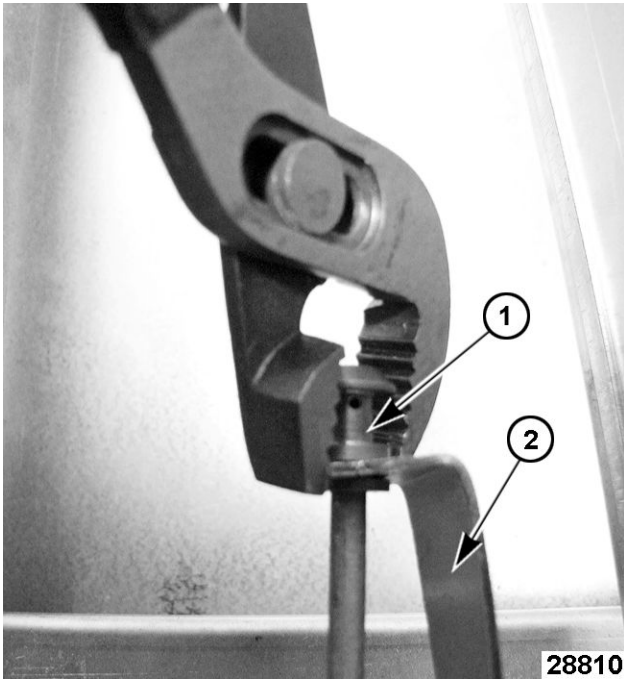

Fig. 106
- Remove pilot tube assembly (1, Fig. 106) from pilot bracket (2, Fig. 106). Use pliers to separate as needed.